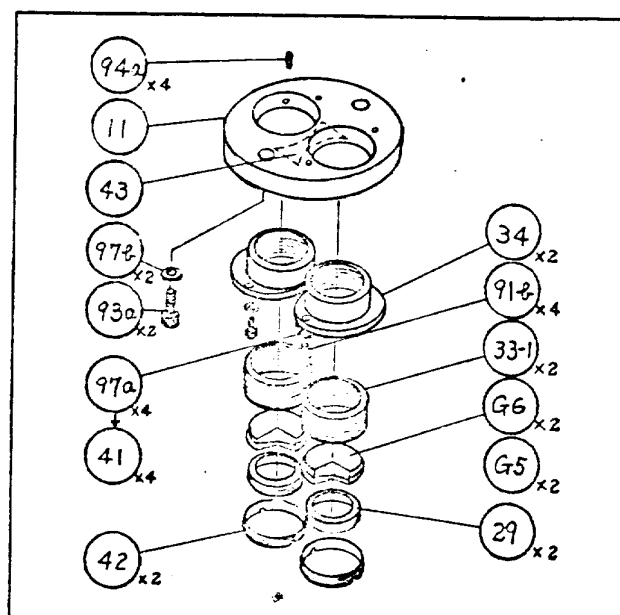

Fig. 55
- ii) Adjust the lens cell (33-1) of G5, 6 to bring the collimator crosshair center into coincidence with the eyepiece reticle center and fasten temporarily the screws (91b) (Fig. 55).